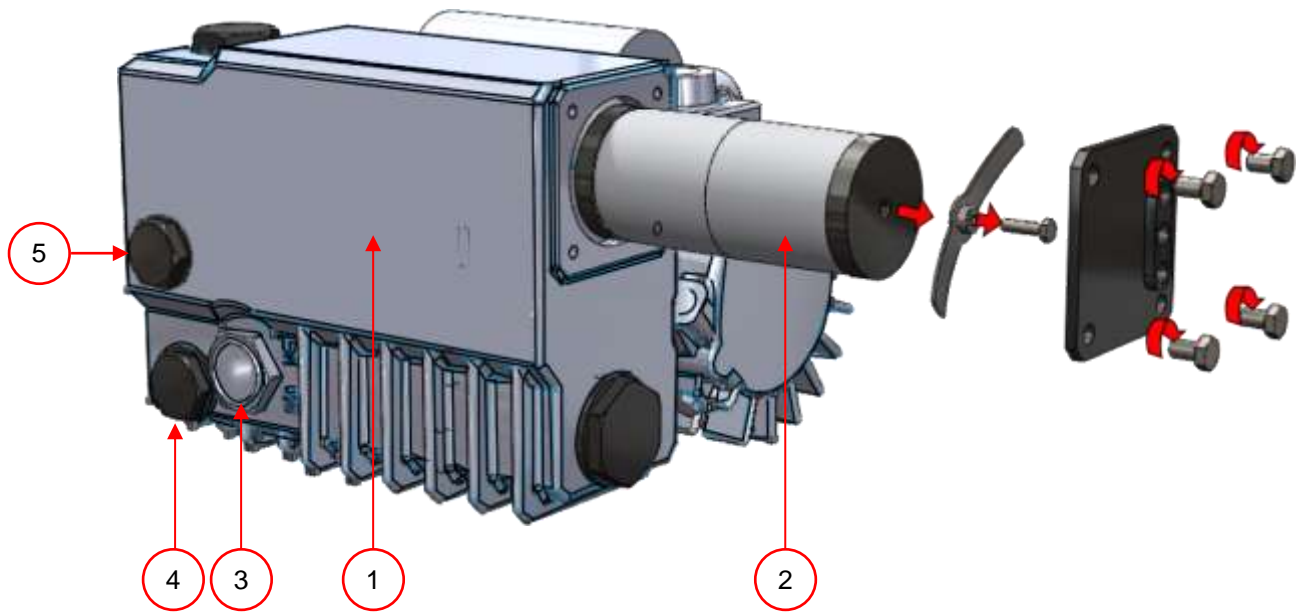

Figure 3: Overview of the pump (filter cover removed)
- Make sure there is enough oil in the pump (Figure 3:4). If this is not the case, then fill the oil